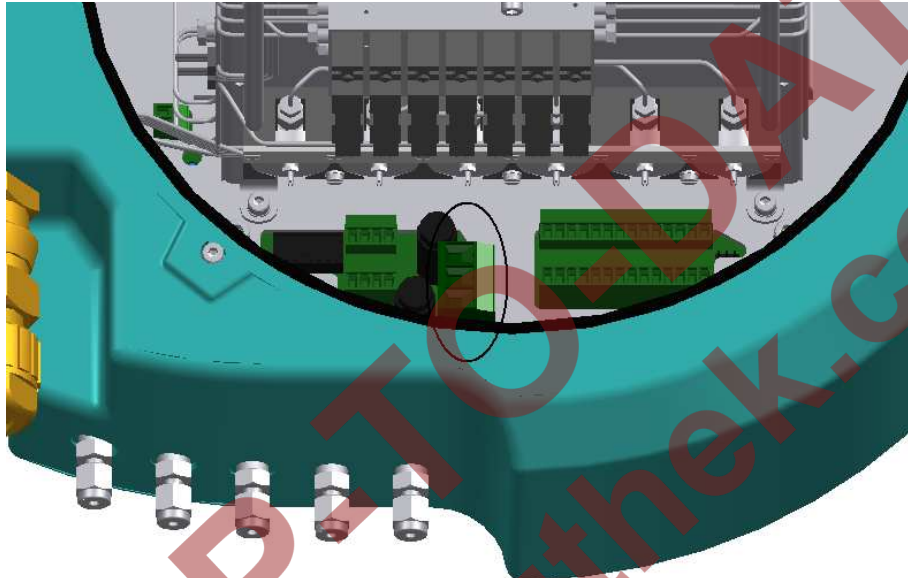

fig. 5-6 Location of Power Supply connector (J8)
Power Supply is 24 VDC, with conductor size AWG 12-13 (2.5 – 4 mm²). The cable has to be connected to connector J8. See picture below and fig. 5-6 for location and polarity. Just a two wire connection for + and – is required, don't connect a third wire for the ground. Instead of that the device should be grounded at the bottom of one housing at a M5 connection or at a free M8 connection at the mounting plate.
- For the location of the internal connector see figure 5.6.